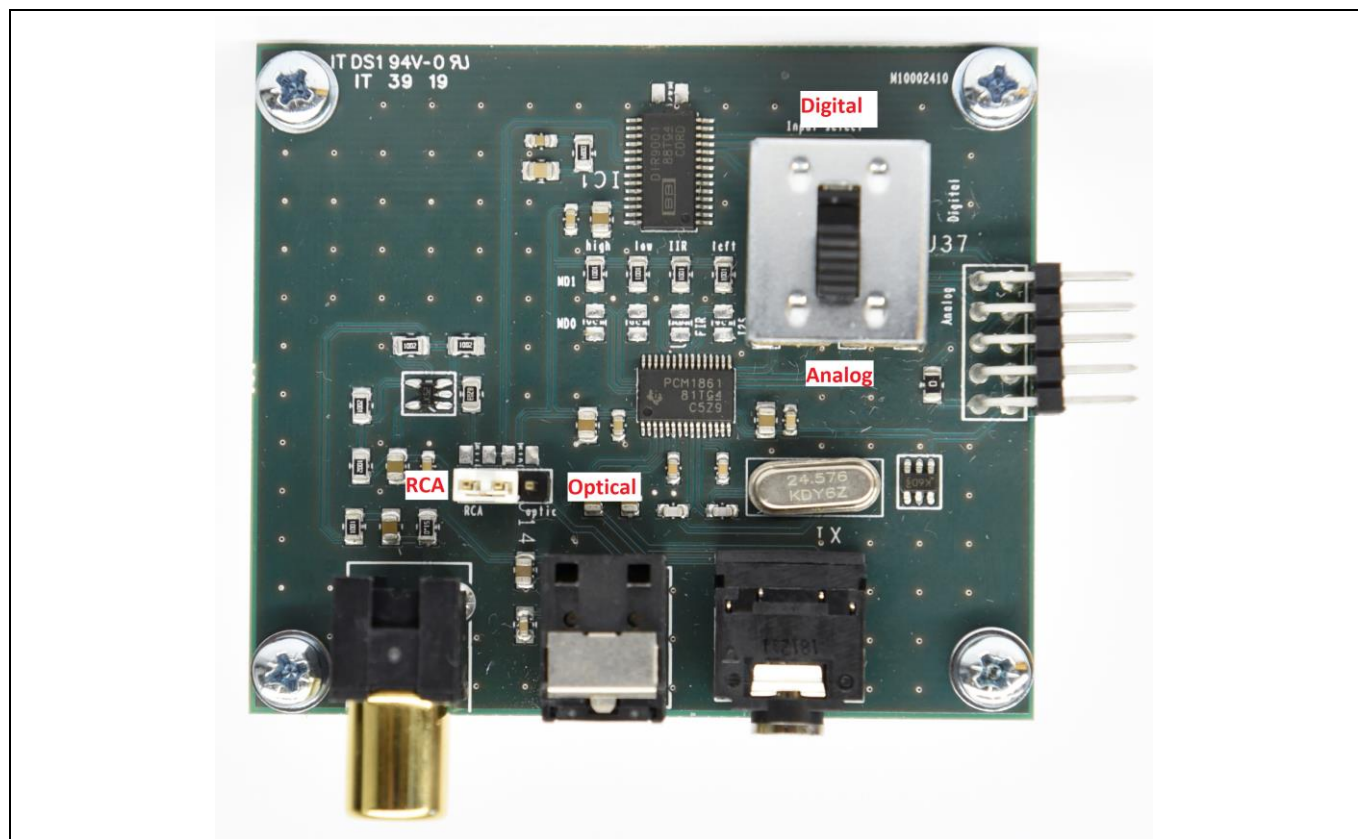

Figure 5 Switch and jumper select
- 5) Use the switch to select analog or digital input. See Figure 5.